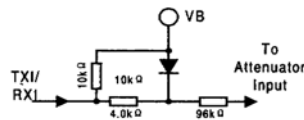

Fig.2 Attenuator Input stage
1. The circuit will switch to transmit if: (A) both transmit level detectors sense signals relative to the respective receive level detectors(TLI1 versus RLI1, TLI2 versus RLI2) and (B) the transmit background noise monitor indicates the presence of speech.
2. The circuit will switch to receive if: (A) both receive level detectors sense higher signal levels relative to the respective transmit level detectors and (B) the receive background noise monitor indicates the presence of speech.
3. The circuit will switch to the fast Idle mode if the level detectors disagree on the relative strengths of the signal levels, and at least one of the background noise monitor indicates speech. For example, referring to the Figure 2, if there is sufficient signal at the microphone amp. Output(TLI2) to over-ride the speaker signal(RLI2), and there is sufficient signal at the receive input(RLI1) to over-ride the signal at the hybrid output(TLI1), and either or both background noise monitors indicates speech, then the circuit will be in the fast idle mode. Two conditions which can cause the fast idle mode to occur are : (A) when both talkers are attempting to gain control of the system by talking at the same time. And (B) when one talker is in a very noisy environment, forcing the other to continually over-ride that noise level. In general, the fast idle mode will occur infrequently.